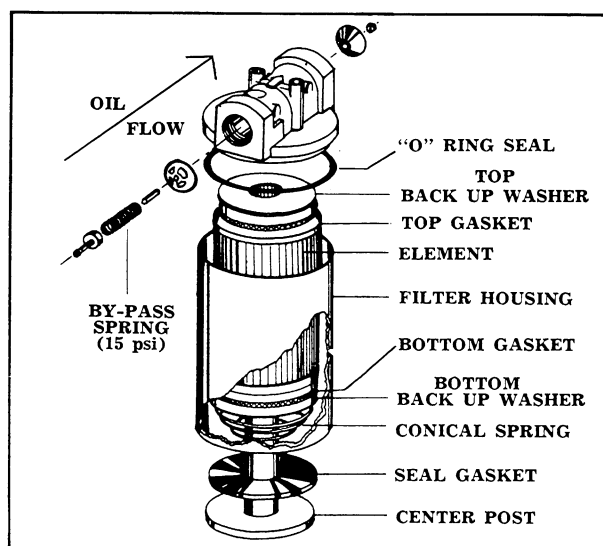

Figure 34
5. Obtain a new filter element and seals. Reassemble as shown in Figure 34.